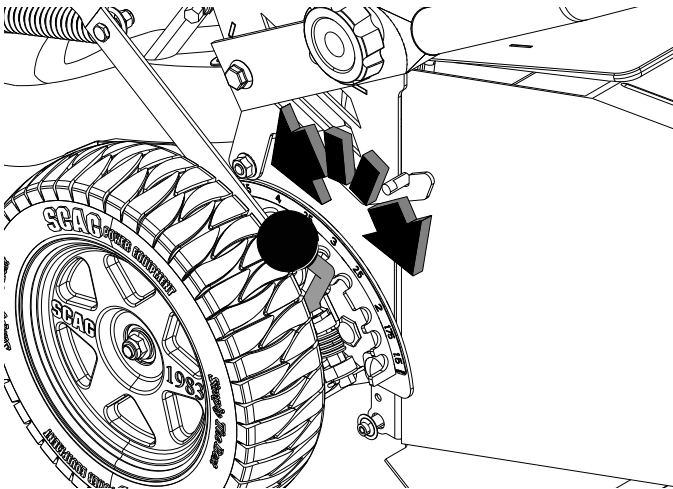

Figure 4-5. Adjusting Cutting Height
3. Slowly pull the cut height adjustment lever out to adjust the blades to the desired cutting height. The cut height adjustment pin is spring loaded and when it aligns with a cut height hole it will snap back into place. See Figure 4-5.